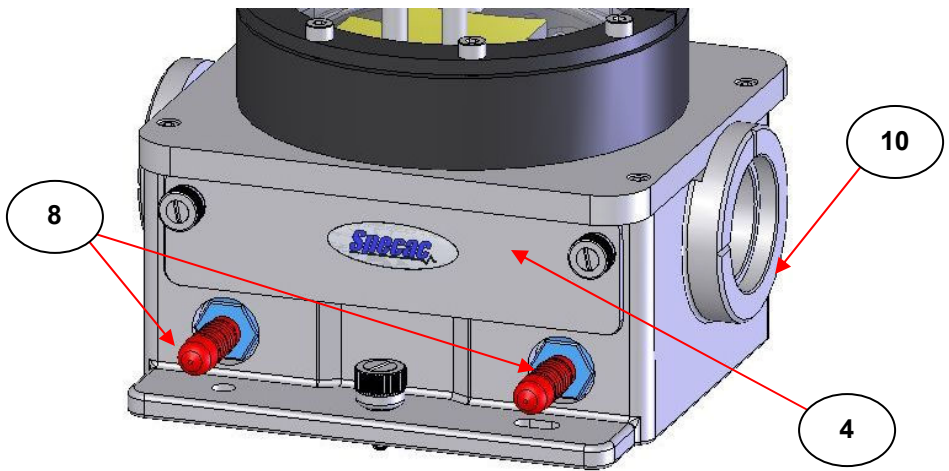
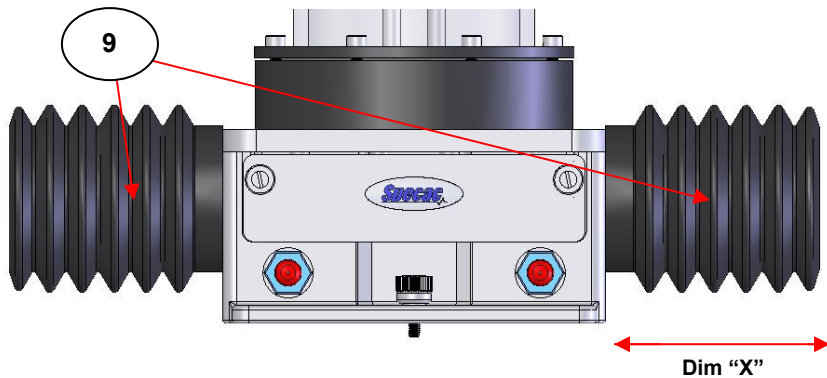

Fig 8. Purge Ports on Optical Unit of Cyclone Gas Cells
Fig 9. Purge Bellows (9) Fitted to Cyclone™ Optical Unit (1)
At the front of the optical unit (**1**), there are two purge port fittings (**8**). For non-purged operation, the protective rubber sealing covers are kept in position to cap off these flow ports, but to purge, the rubber seal covers are removed by pulling them off of the barbed ended purge port fittings. With their removal flexible purge tubing (silicone rubber) can be connected in place to the barbed tubing connections. One of the ports (**8**) acts as an inlet and the other as an outlet for gas flow. (See Fig 8.). The cover plate (**4**) is not removed to purge the optical unit.
The purge bellows (9) push fit over the circular aperture ports (10) at each end of the optical unit (1). (See Fig 8.) The purge bellows (9) may need to be cut to a shorter length for a better fit within the sample compartment when fitted to the optical unit (1). With the Benchmark™ base plate secured, and Tornado™ gas cell installed correctly into position on the Benchmark™ baseplate, measure the approximate distance between the spectrometer side walls from the source and detector ports and the flat end surface of the optical unit (1) (Dimension 'X' – see Fig 9).
With the Benchmark™ base plate secured, and Tornado™ gas cell installed correctly into position on the Benchmark™ baseplate, measure the approximate distance between the spectrometer side walls from the source and detector ports and the flat end surface of the optical unit (1) (Dimension 'X' – see Fig 9).
Fit the flexible purge bellows (9) over both circular aperture ports (10) (as seen at Fig 9.) and compress sufficiently to enable the gas cell and purge bellow assembly to fit back into the spectrometer on the Benchmark™ baseplate.